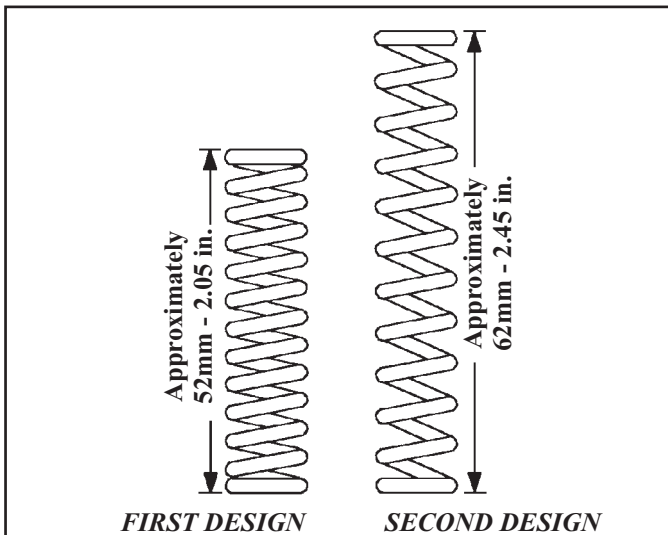

Figure 204
**IMPORTANT:** There are two design servo springs as shown in Figure 204. If spring replacement becomes necessary, be sure that the proper design is being used as the two are NOT interchangeable.